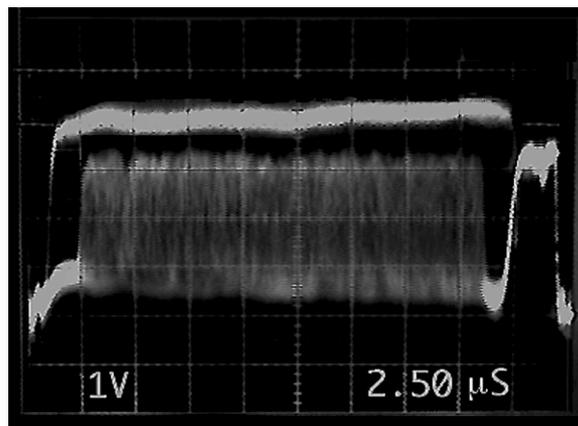

Figure 6-2 Digital Video Oscilloscope Image – Focus Adjustment.
8. With digital film threaded and running in the projector, observe the video waveform. (See figure 6-2 below).